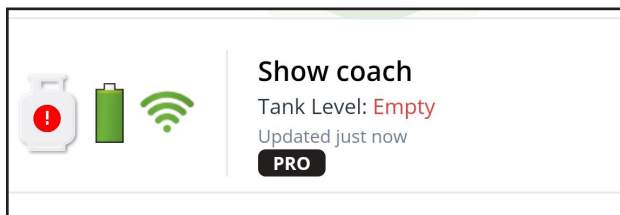

Fig.10
1. Within the app, tap on the sensor that needs to be leveled (Fig.10).